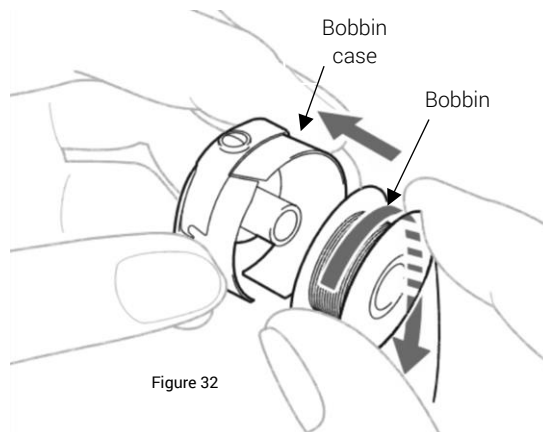

Figure 32
1. Hold the bobbin with the thread in the clockwise direction. See Figure 32.
2. Insert the bobbin into the bobbin case. See Figure 32.